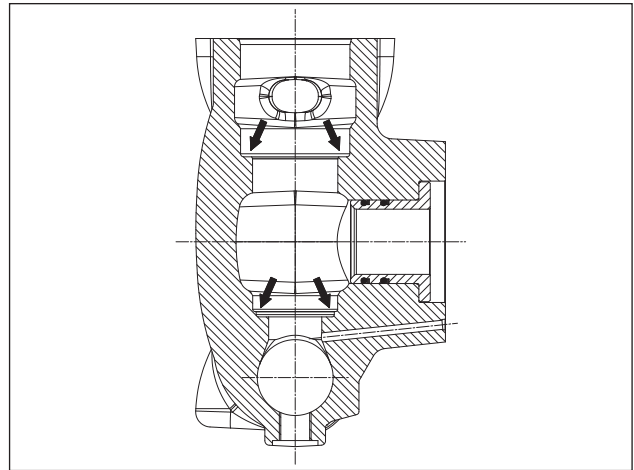

Fig. 113
Before repositioning the valve units, thoroughly clean and dry the relative housings on the head indicated by the arrows (pos. ①, Fig. 113).